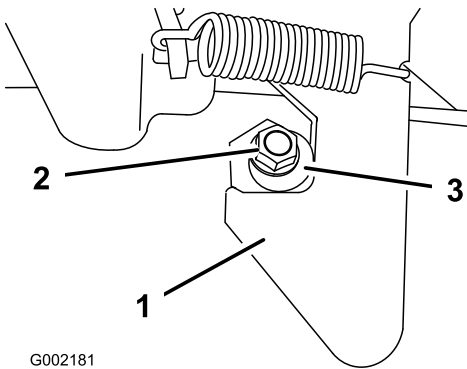

Figure 13
1. Loosen the nut on the end of the latch post (Figure 13).
2. Turn the latch post clockwise until it is snug against the latch and then tighten the nut (Figure 13).